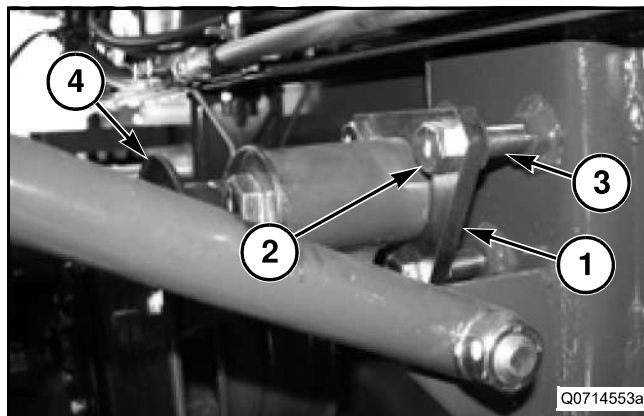

FIG. 28
FIG. 28: The same type of idler arm mounting plate (3) is used in many locations on the machine. The idler assembly is adjustable for better alignment of the idler (4).